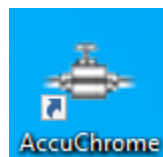

Figure 4-10: AccuChrome PC application shortcut icon
- 6) Confirm successful installation by locating the shortcut icon (Figure 4-10) on the installation computer *Desktop*.
Start the connection protocol by double clicking the AccuChrome shortcut icon on the desktop (Figure 4-10).